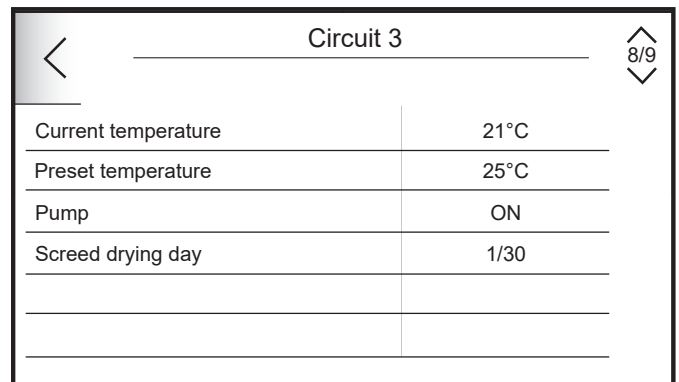

Figure 7-19: Screed drying counter
3. Either Tap the 'Λ' or '∇' arrows or swipe the screen to scroll down to the heating circuit diagnostic information screen. Refer to Figure 7-19.